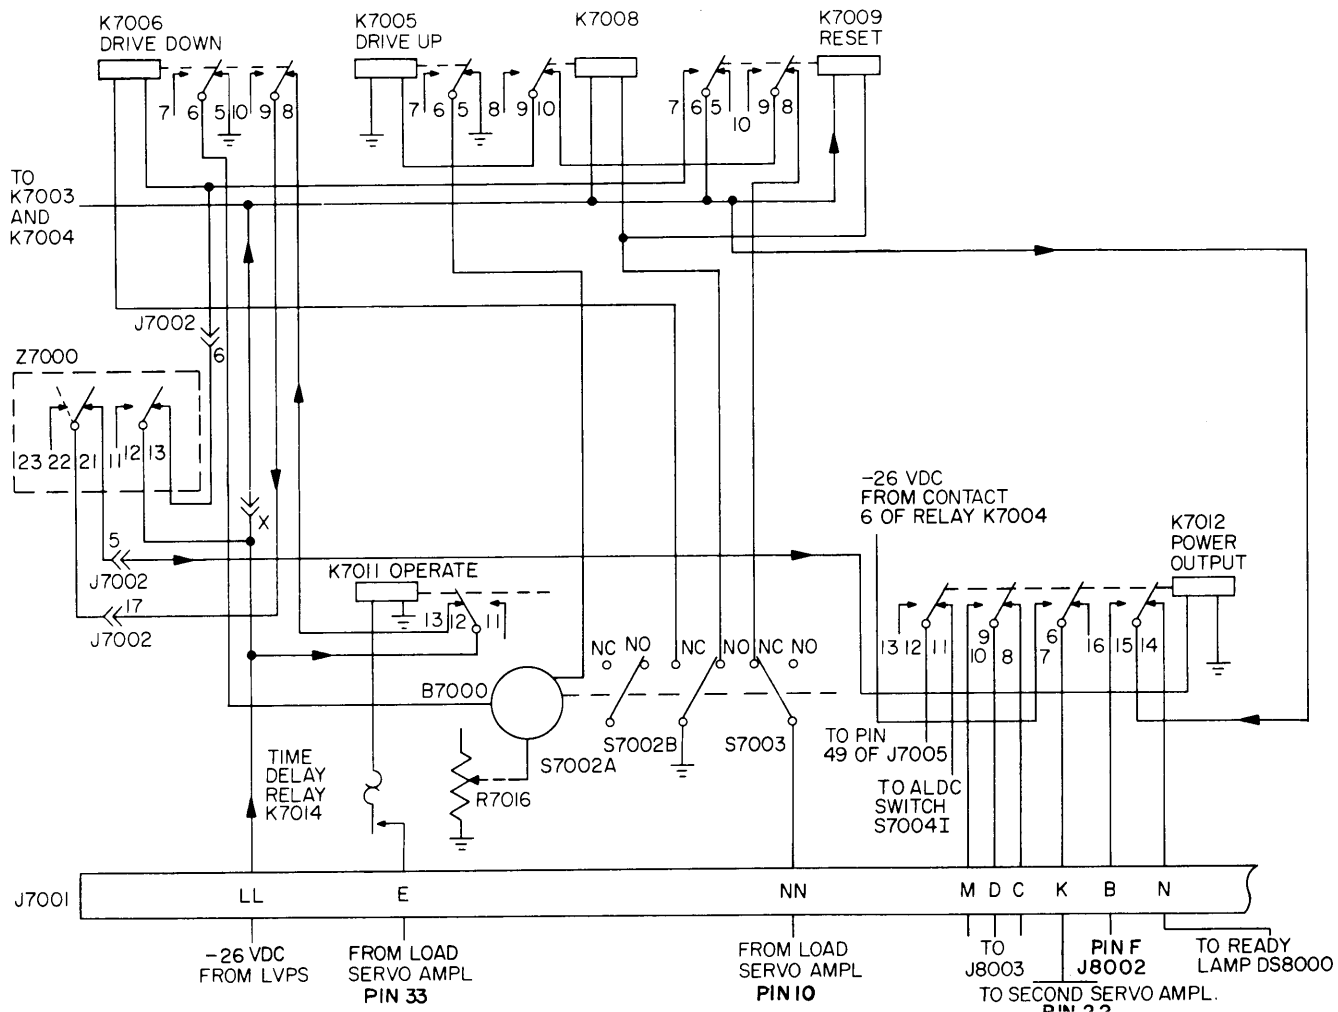

Figure 4-19. Simplified Schematic of Power Output
(4) POWER OUTPUT CONDITION (refer to figure 4-19) - When the relay in the PA output meter Z7000 swings to contact 21, the -26 vdc is sent to the coil of Power Output relay K7012. The contacts of relay K7012 then swing over and latch toward the power output coil. In this position, the -26 vdc goes through contacts 14 and 15 to pin N of J7001, lighting the ready indicator DS8000 on the front panel of the rack, contacts 8 and 9 are connected to remote jack J8003, contacts 6 and 7 open, interrupting the -26 vdc supply circuit, and contacts 11 and 12 lift the ground off the ALDC output circuit, enabling it to function.